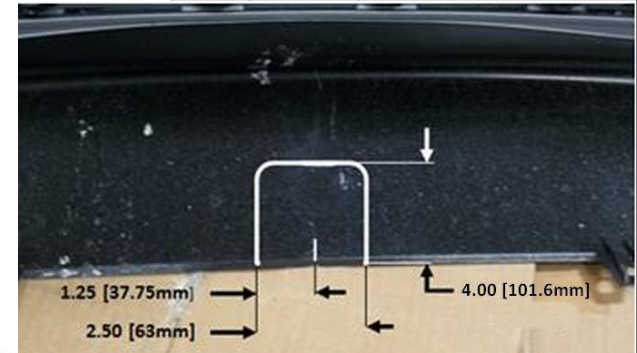

Figure 3
9. **Trim fascia:** using the center of the fascia marked in step 1. 2.50 x 4.125 off center mark. Use drill to create radius. See Figure 3.